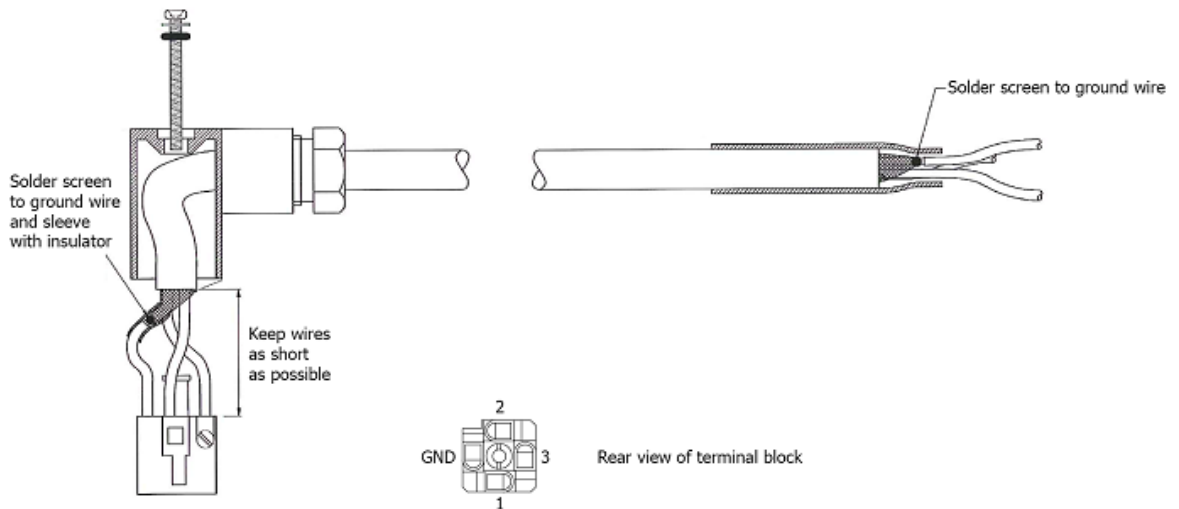

Figure 17 *Pura Transmitter*
4. Cable should be assembled according to *Figure 17*.